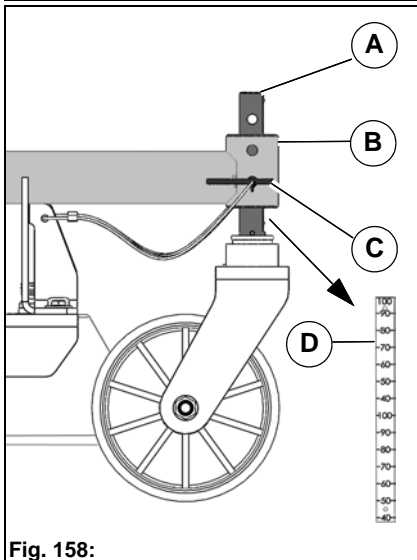

Fig. 158:
2. Pull the mounting bolt **Fig. 158-C** out and push the bolt **Fig. 158-A** of the wheel fork into the bush **Fig. 158-B** of the wheel spar until the wanted cutting height is set. You can adjust the cutting height centimetre by centimetre with the two mounting holes in the bush.
3. You can read off the cutting height on the scale **Fig. 158-D**.